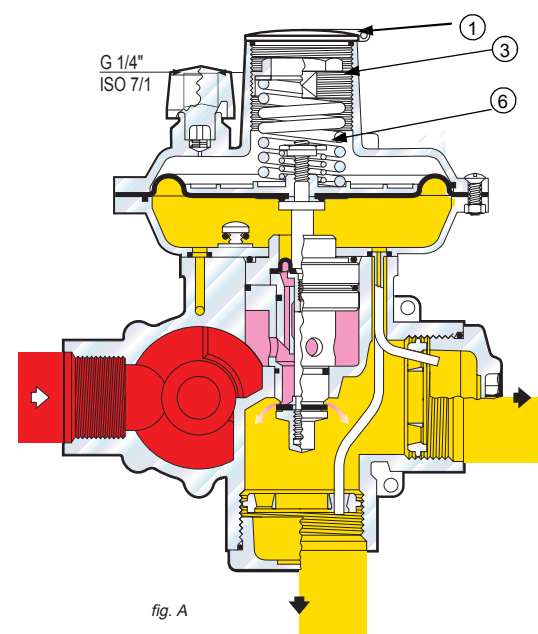

Fig. 2
3. START UP (ref. fig. 2)
The IRV opens only in the case of little anomalies when downstream pressure value increases avoiding the intervention of the OPSO. The IRV closes when the downstream pressure decreases to the normal operating conditions (see Fig.2).
When necessary, the inlet filter (Fig.2) may be cleaned without removing the regulator from the line. Proceed as follows: